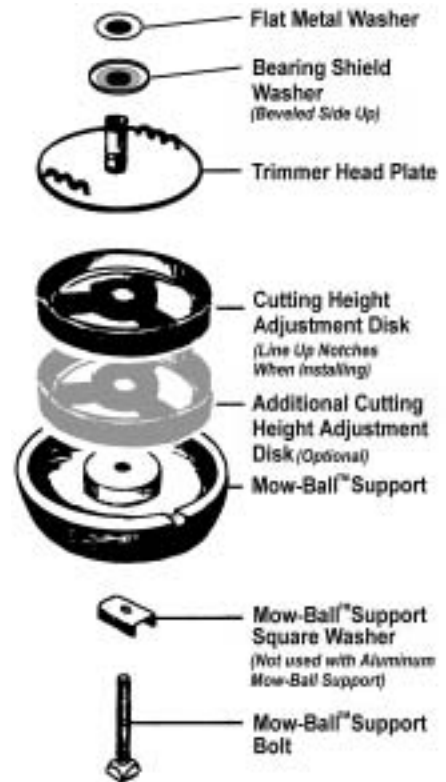

Figure 22
4. Reassemble the components in the order shown in Figure 22, adding the additional cutting height disk above or below the one already installed.